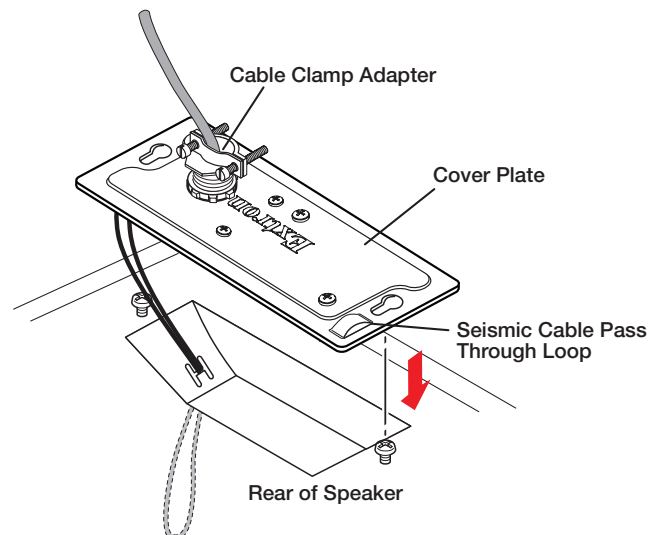

Figure 28. Routing the Cables Without a Conduit
- Insert the wires through the clamp and cover plate, as shown in figure 28.